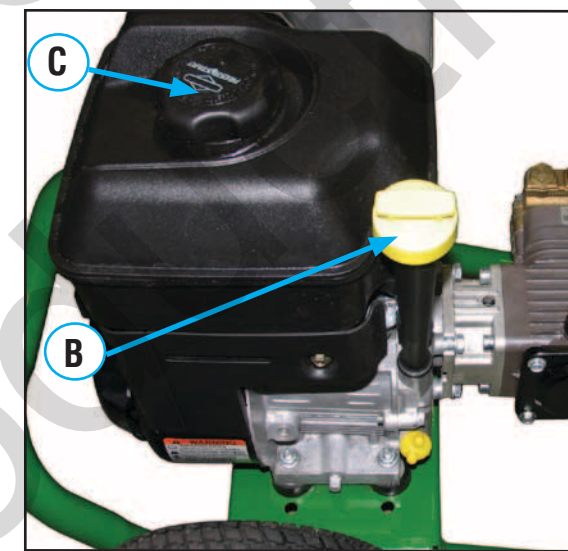

FIGURE 3
2. Clean area around oil fill (B) (See Figure 3) and remove yellow oil fill cap. Using oil funnel (optional), slowly pour contents of provided oil bottle into oil fill opening.
4. Clean area around fuel fill cap (C) (See Figure 3), remove cap. Slowly add regular unleaded fuel to fuel tank. Be careful not to overfill. Allow about 1.5 in. (4 cm) of tank space for fuel expansion.